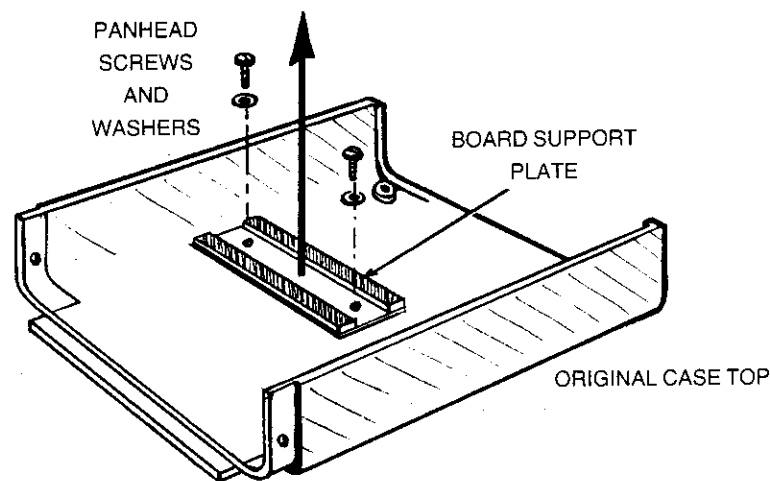

Fig. 2.10 Removing the board support plate from the original case top
2. Remove the **Board Support Plate** from the original case top and refit it in the corresponding position inside the Replacement Case Top using the same screws and washers. See Fig. 2.10.